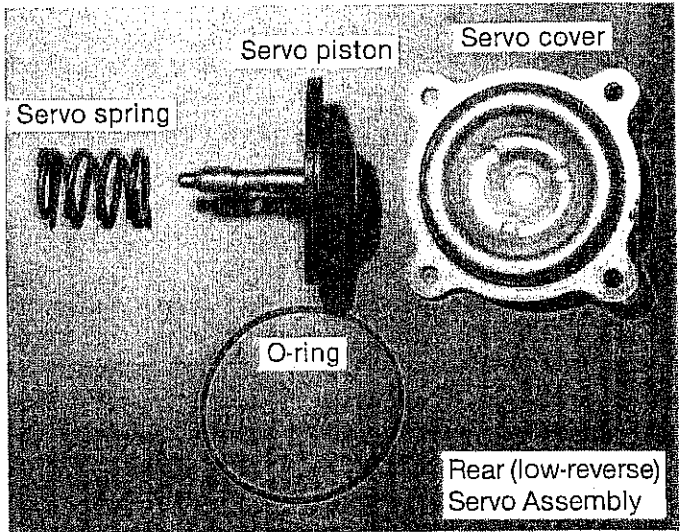

FIGURE 52
STEP 4. Position new gasket on servo cover. Install servo assembly into case. Make sure servo return spring is in place. Install four bolts and tighten 16 to 22 ft.-lbs. Inspect rear servo piston. (See Fig. 52). If molded seal is damaged you will have to replace the piston. Install rear servo spring and piston into case. Install new O-ring seal in place on rear servo cover. Install cover into position. Install breather tube and retainer. Install four bolts and tighten 12 to 20 ft.-lbs. Make sure servo cover seal does not fall out of place when you tighten the bolts.